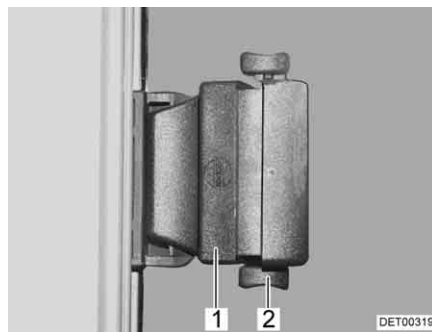

Fig. 81 Sliding window with pressure lock
- Press the lock (Fig. 81,2) upwards.
- Press handle (Fig. 81,1) and push it forward or backward at the same time.